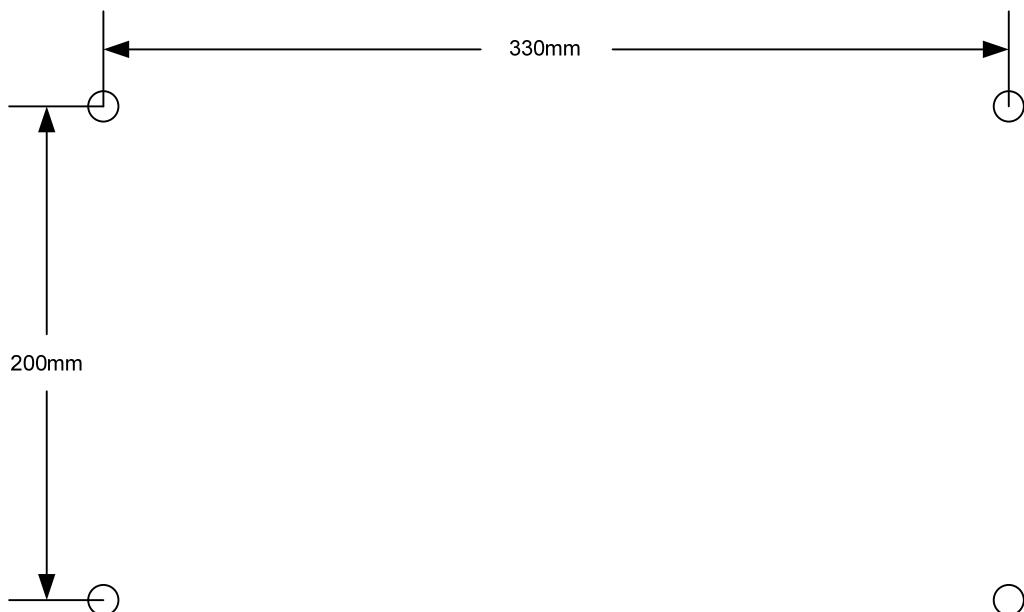

Figure 3-1 RAM2241 RU Installatio
- 2) As Figure 3-1 shows that RU Installation one the wall is with M8 expansion bolt;